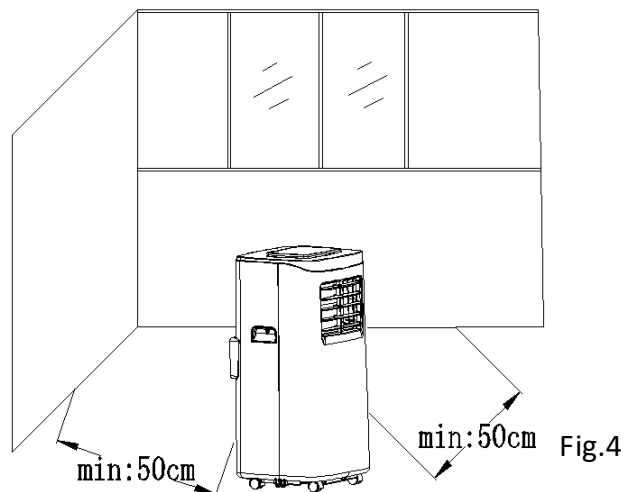

Fig.4
1) Move the machine with installed heat pipe and fittings before the window, and the distance between the body and walls or other objects shall be least 50 cm (as shown in Fig.4).